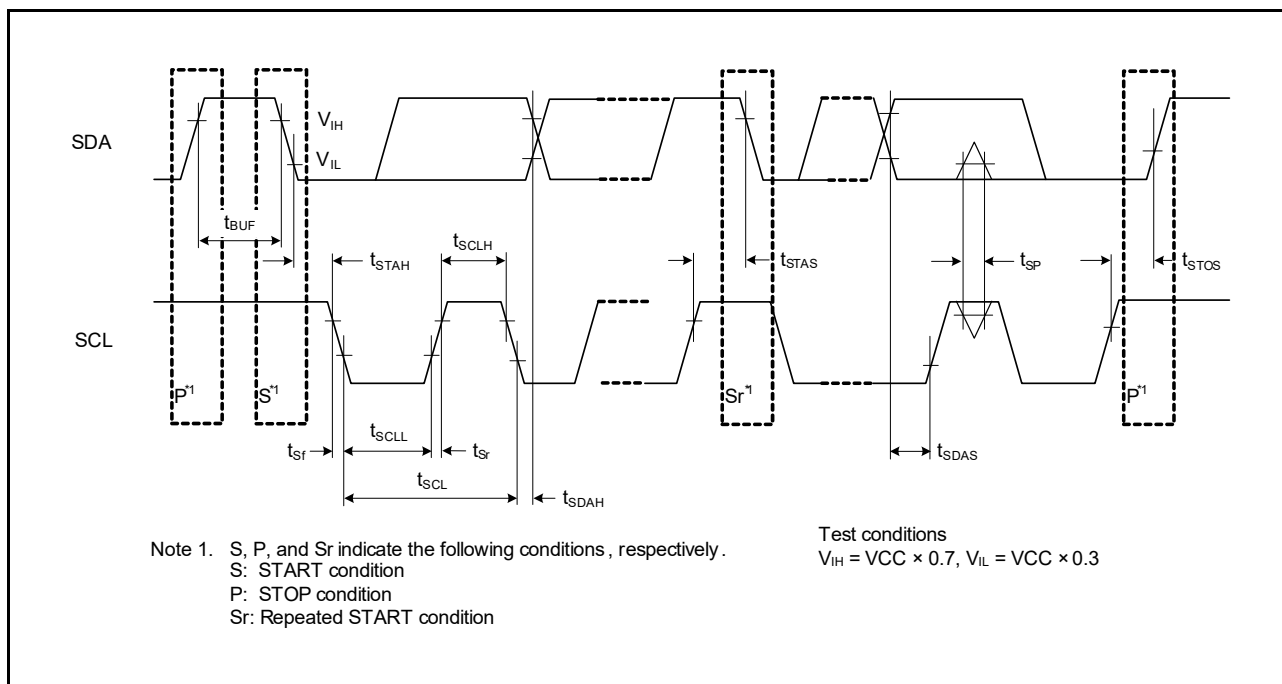

Figure 2.35 RII Bus Interface Input/Output Timing and Simple I²C Bus Interface Input/Output Timing
| RIIC (Standard mode, SMBus) | SCL cycle time | t _{SCL} | 6 (12) × t _{IICcyc} + 1300 | — | ns | Figure 2.35 |
| RIIC (Fast mode) | SCL cycle time | t _{SCL} | 6 (12) × t _{IICcyc} + 600 | — | ns | Figure 2.35 |
| Simple I ² C (Standard mode) | SDA rise time | t _{sr} | — | 1000 | ns | Figure 2.35 |
| Simple I ² C (Fast mode) | SDA rise time | t _{sr} | — | 300 | ns | Figure 2.35 |